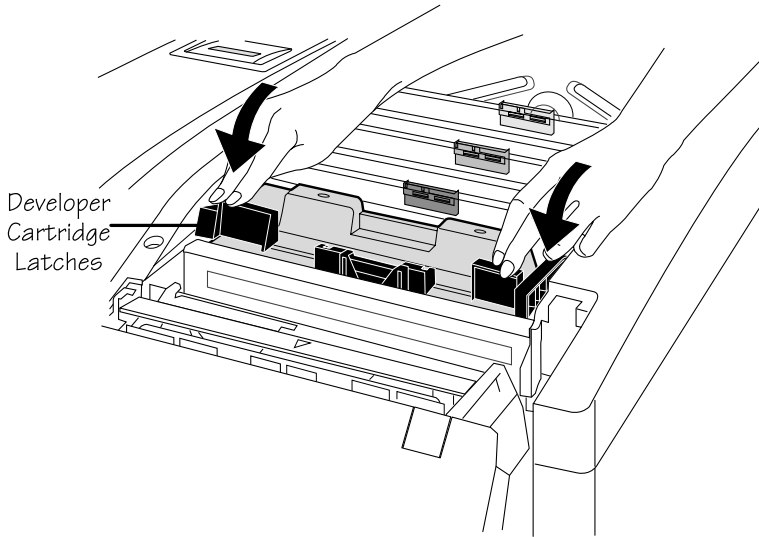

Fig. 2.8 Close Latches (rear view)
4. Close the green latches by pushing them forward and down to hold the developer cartridge in place (fig. 2.8).